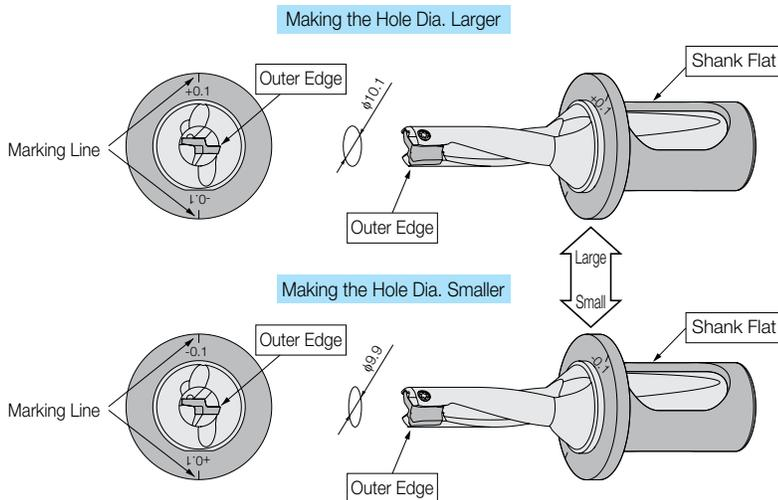

Fig.1 Diameter Adjustment Method (e.g.) Ø10mm Drill
- (1) Set the outer edge horizontally with 90° to making line on the sleeve. (Fig.1)
- (2) When making the hole diameter larger, align the +0.1 mark on the sleeve with the flat on the drill shank.
To adjust to smaller diameter, align the -0.1 mark on the sleeve with the flat on the drill shank. (Fig.1)